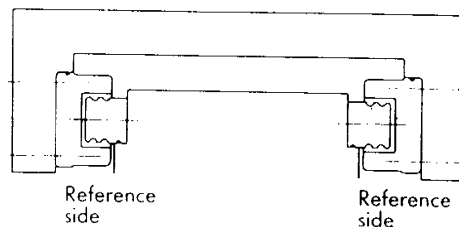

Fig. 39
(D) With the method shown in Fig. 39, both rails become Reference side rail. In such a case, please consult before-hand.